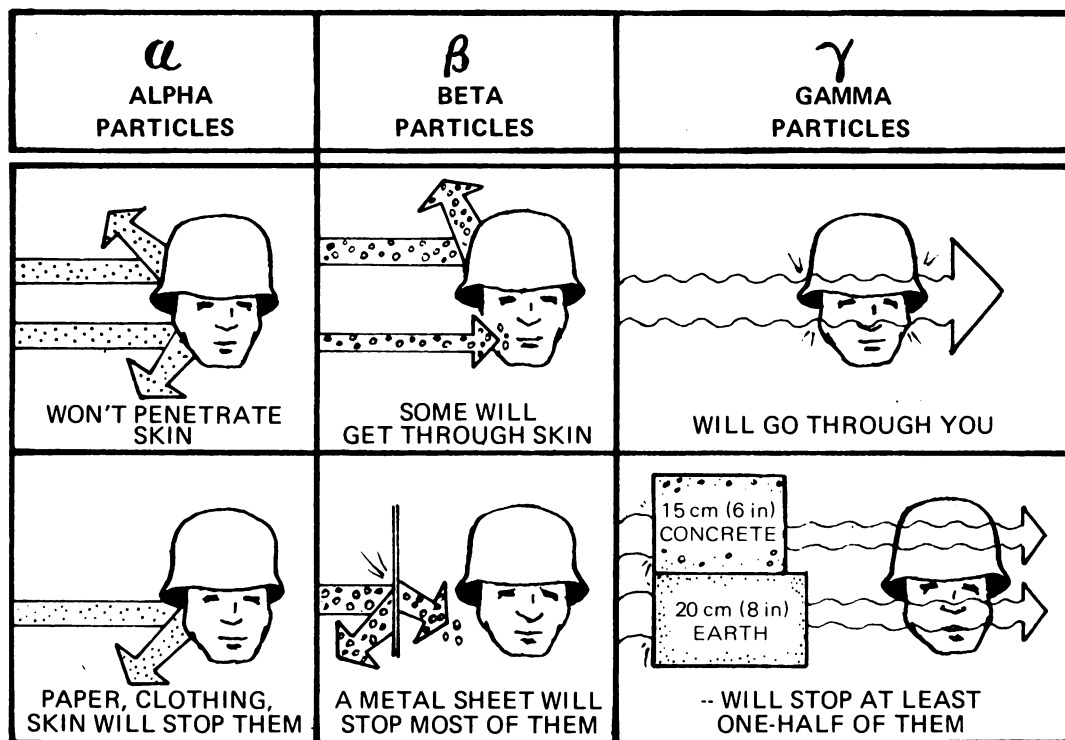

Figure 3. Types of nuclear radiation.
- c. Seek cover (fig. 3 for nuclear only), cover exposed skin, and decontaminate. (See tasks 091-503-1004 and 091-503-1003.)